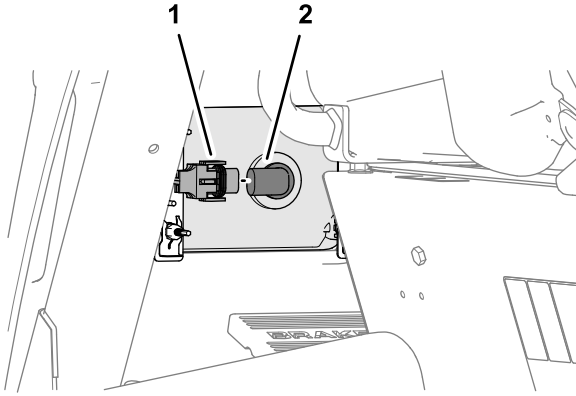

Figure 143
- Assemble the headlight connector of the machine wire harness to the connector of the headlight bulb (Figure 143).